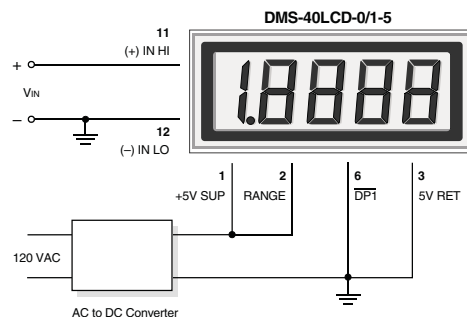

**Figure 2. Single-Ended Input Configuration (5V-Powered Models)**
- 1. Single-Ended Input Configurations:** True single-ended measurements can only be made with 5V-powered meters. The circuit of Figure 2 avoids problems normally associated with ground loop currents. Separate ground runs should be used for 5V RETURN (pin 3) and (–) INPUT LO (pin 12).